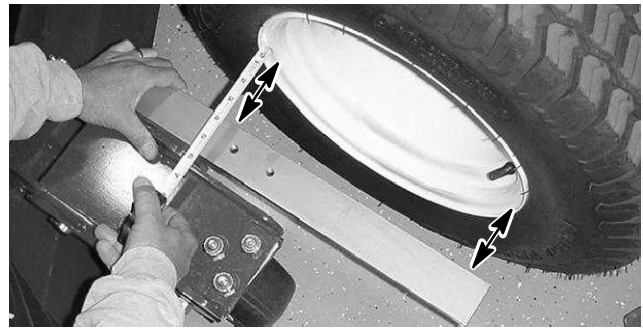

Figure 10
- B. Place a square or straight edge against the deck weldment that contains the castor fork assembly (Fig. 10). Do not use the castor fork assembly itself.
- C. Measure from the inset bead of the rim (not the outer edge of the rim) to the straight edge at two locations as indicated in Figure 10. Rim and paint irregularities make the rim outer edge an unreliable point of measure. These two measurements should be the same within a tolerance of 1/8" (3 mm).
- D. Rotate spring shaft (item 12) in rear arm assembly until correct dimension is attained. Shaft should rotate freely inside the assembly. All adjustments must be made with the rod end of the rear arm bolted to the deck.
- F. When deck is properly aligned to traction unit, tighten rod end jam nut (item 9).